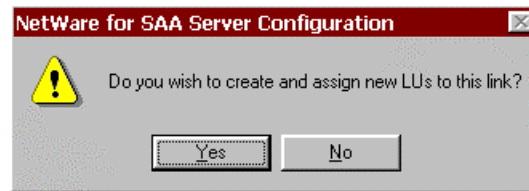

Figure 11-19. LU Prompt
7. Click **OK** to complete the Host Link definition. You will be prompted as to whether or not you wish to assign LUs to this link (Figure 11-19).